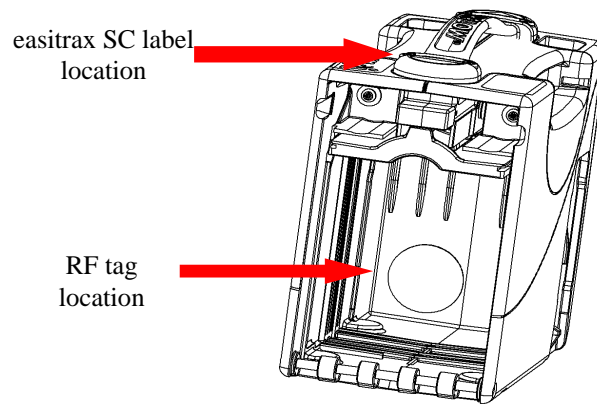

fig.3
7. Using an alcohol wipe, clean the area where the RF tag will be mounted that is shown in fig. 3.
8. Mount the RF tag and reinstall the pusher plate and spring. See fig.3
9. Mount the easitrax SC label, locating it just above the bottom of the yellow cashbox handle. See fig.3